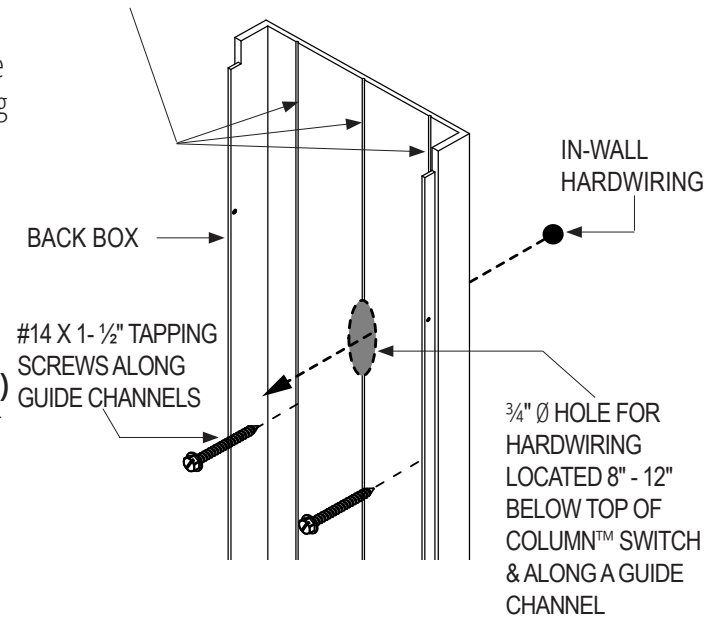

Figure 4.2 Guide Channels
5. Locate and mark the matching holes for mounting screws anywhere along the Guide Channels of the Back Box and align them with the corresponding anchor locations on the wall. (Figure 4.2 and 4.3)
6. Drill the mounting screw holes on the Back Box using drill bit 17/64" for either #14 tapping screws or 1/4"-20 machine screws. (Figure 4.2 and 4.3)
8. Drill the 3/4" Ø hole on the Back Box for hardwiring connection. (Figure 4.2 and 4.3)